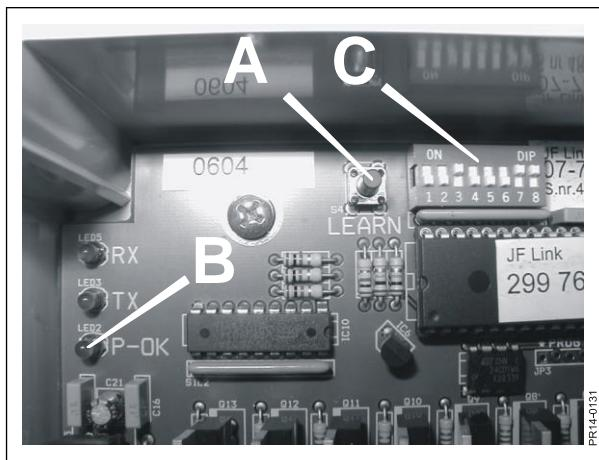

Fig. 1.3
- Fig. 1.3** Programming of the remote control implies that all units in the system are set up to the same function variant on DIP1 – DIP4 (**C**). That is to say DIP1 – DIP4 must be set identically in the valve box and remote control(s) in order to communicate with each other.
- Fig. 1.3** In order to program a new remote control the procedure below must be followed: